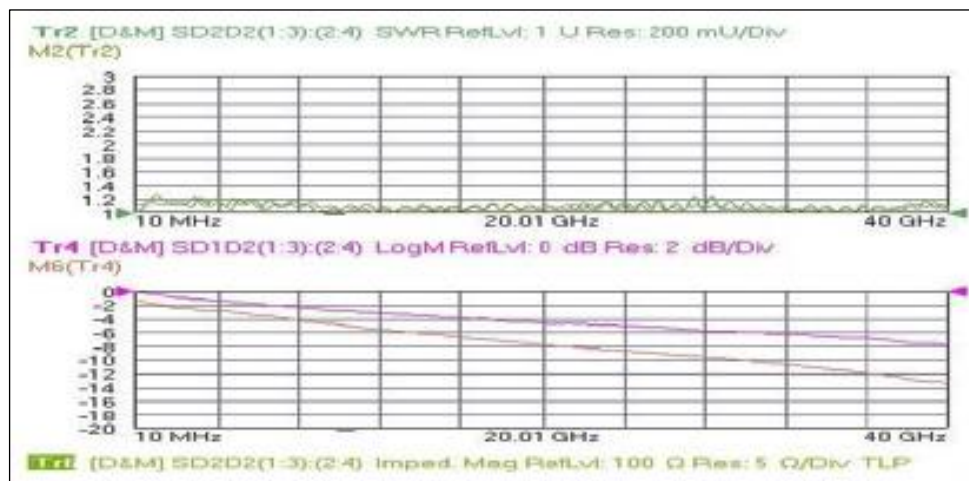

Figure 5. Verifying Probe De-Embedding Accuracy
The raw brown insertion-loss measurement in **Figure 5** below includes the combined loss of:
This raw measurement corresponds to the bottom brown insertion-loss trace in **Figure 5**.
3. The upper purple insertion-loss trace in **Figure 5** shows the de-embedded result, with the probe's frequency-dependent loss removed and only the ISBNN PCB trace response remaining.